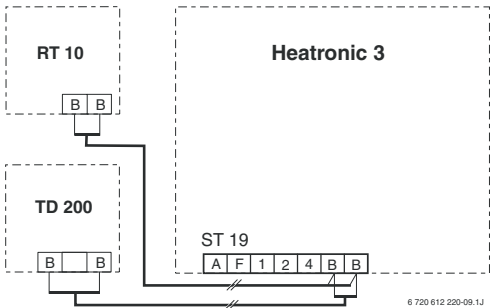

Fig. 10 TD 200 connected to the bus-enabled Heatronic 3.
- Make electrical connections (see Figure 10).